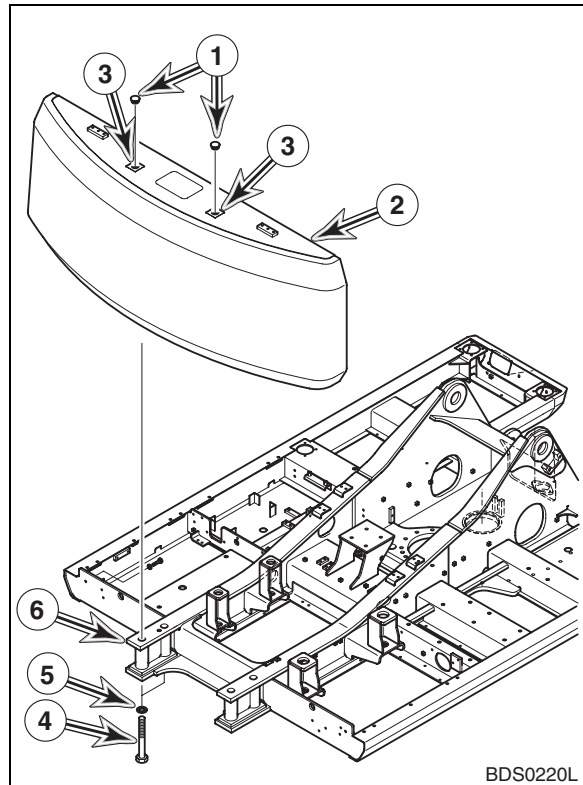

Figure 4
12. Remove two caps (1, Figure 4) from counterweight (2).
13. Install two lifting eyes in lifting holes (3, Figure 4).
14. Using a suitable lifting device capable of handling a heavy load, partially support counterweight (2, Figure 4) before loosening four bolts (4). Stop lifting with assist crane as soon as lifting slings are taut.
15. Remove four bolts (4, Figure 4) and washers/spacers (5) from counterweight (2).
16. When bolts (4, Figure 4) and washers/spacers (5) have been removed, lift counterweight (2) a very short distance above support frame (6) and stop. Check slings and make sure counterweight is being supported evenly.